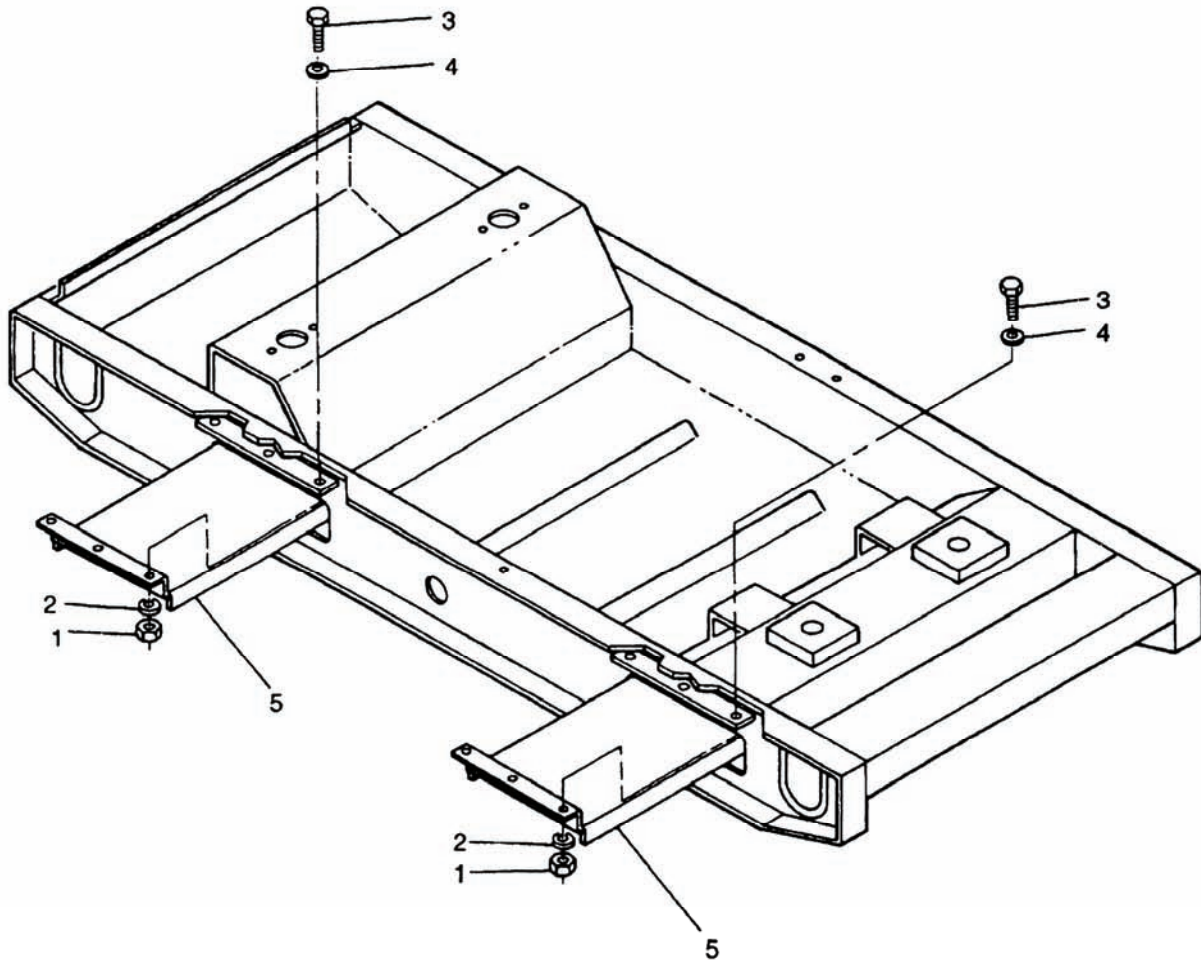

Figure 4-17. Skid Base.
- d. Remove nuts (1, Figure 4-17), lock washers (2), bolts (3), washers (4), and forklift guides (5) from skid base. Discard lock washers (2).
- a. Install forklift guides (5, Figure 4-17) in skid base with bolts (3), washers (4), new lock washers (2), and nuts (1).